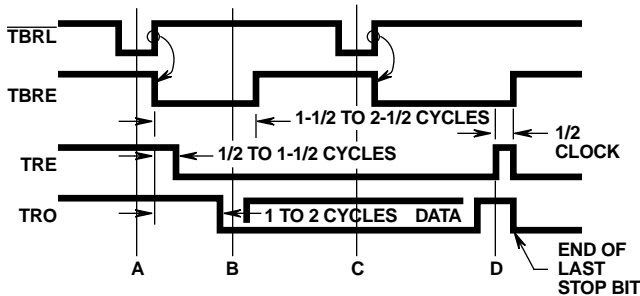

FIGURE 3. TRANSMITTER TIMING WAVEFORMS
Transmitter timing is shown in Figure 3. (A) Data is loaded into the transmitter buffer register from the inputs TBR1 through TBR8 by a logic low on the \overline{TBRL} input. Valid data must be present at least t_{DT} prior to, and t_{TD} following, the rising edge of \overline{TBRL} . If words less than 8-bits are used, only the least significant bits are used. The character is right justified into the least significant bit, TBR1. (B) The rising edge of \overline{TBRL} clears \overline{TBRE} . 1/2 to 11/2 cycles later, depending on when the \overline{TBRL} pulse occurs with respect to TRC, data is transferred to the transmitter register and TRE is cleared. \overline{TBRE} is set to a logic High one cycle after that.